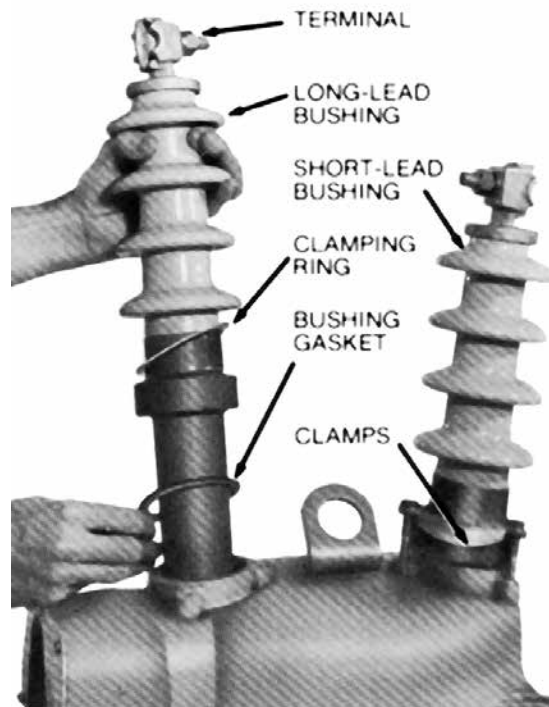

Figure 36. Lifting a bushing assembly
2. Remove the three bolts that secure the bushing clamps and lift the bushings out of the head casting (Figure 36).